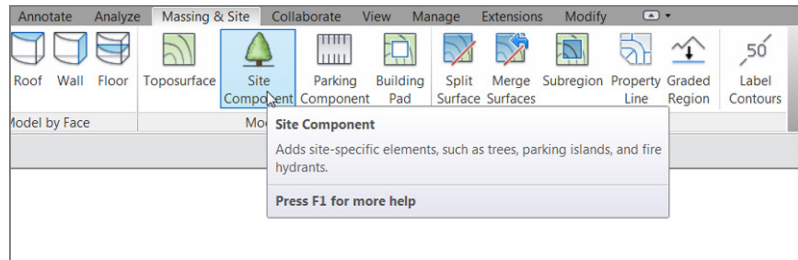

FIGURE 18.14: The Site Component button
6. On the Massing & Site tab, click the Site Component button, as shown in Figure 18.14.